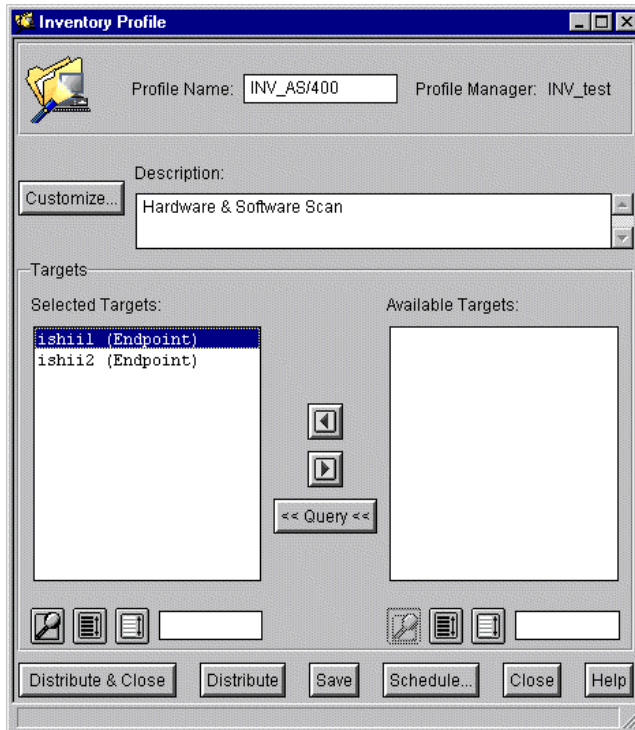

Figure 320. Distributing inventory profiles.
5. Now that we have configured the profile to run hardware and software scans, we need to distribute the profile to our AS/400s. To do this, right click on the inventory profile in the Profile Manager again and select **Discover** from the menu. The screen shown in Figure 320 appears.